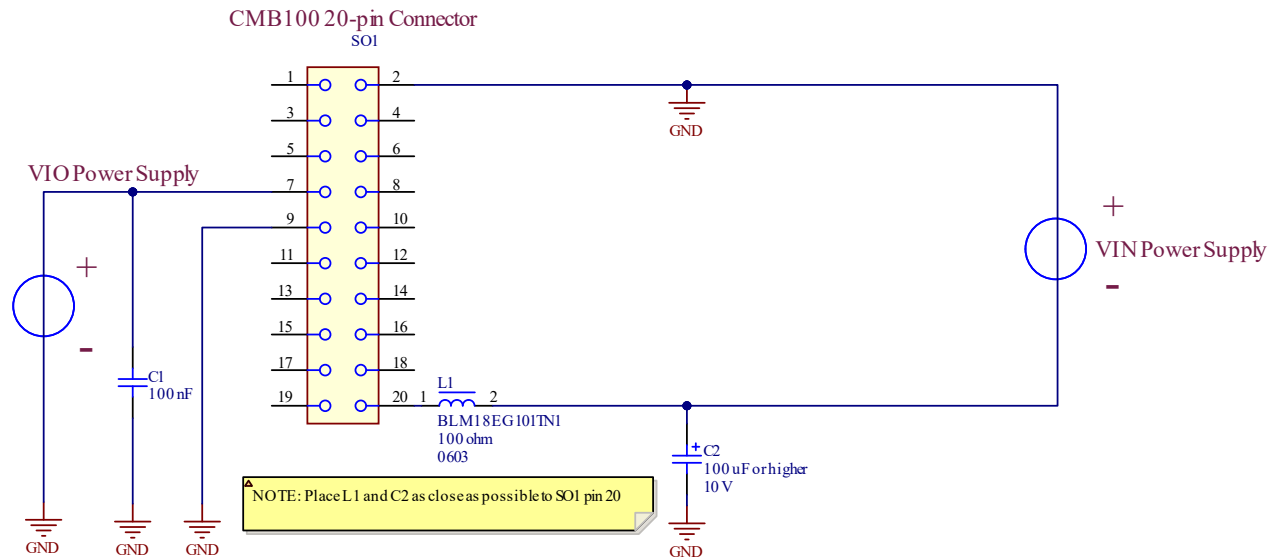

Figure 2: Recommended CMB100 power supplies guideline
- Place low ESR bypass capacitors close to the series power BLM. In case of a switching power supply a second low ESR capacitor should be placed close to the application board DCDC inductor to cut the ripple, provided the PCB trace from the capacitor to the CMB100 (please check Figure 2) is wide enough to ensure a voltage drop less connection even during an 0.6 A (LTE) or 2A (GSM) current peak.
- A dedicated ground for the switching regulator separated by the common ground plane is suggested. See for example **Local GND** net in Figure 2.